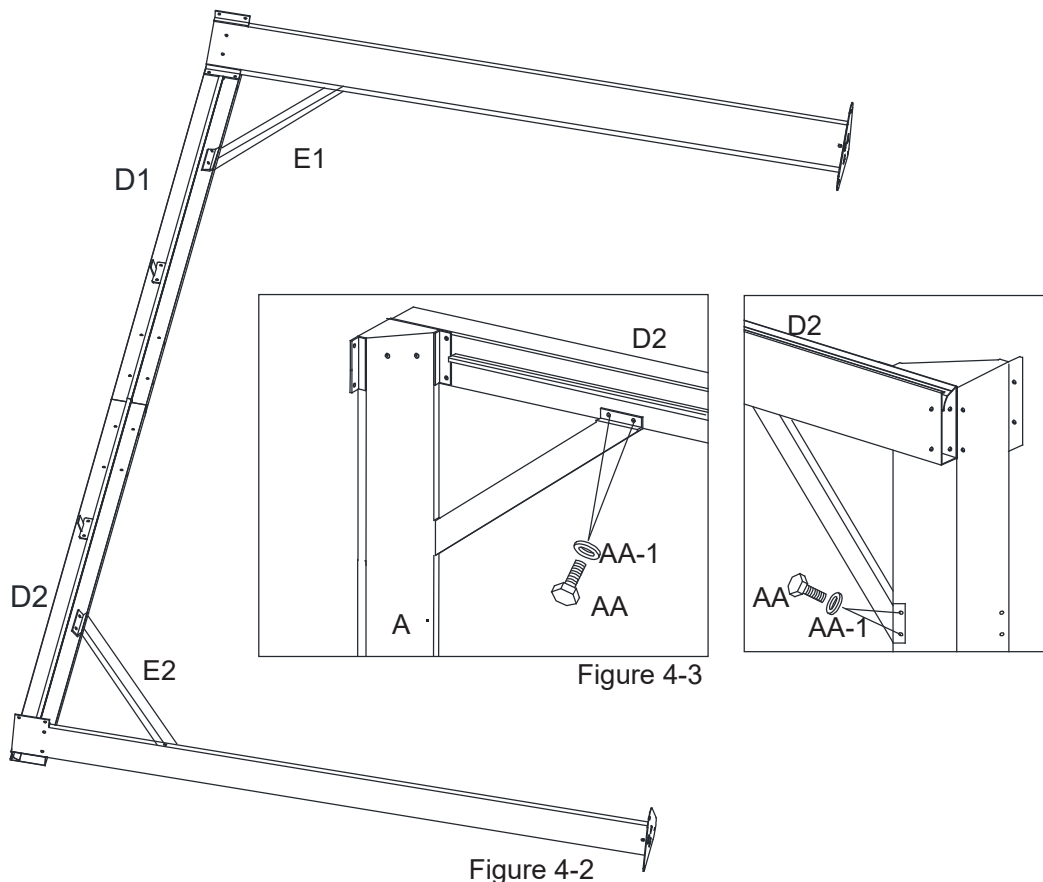

Figure 4-2
4.2: Repeat for opposite side Long Lintels (D1 and D2) and Corner Posts (A). See Figure 4-2.